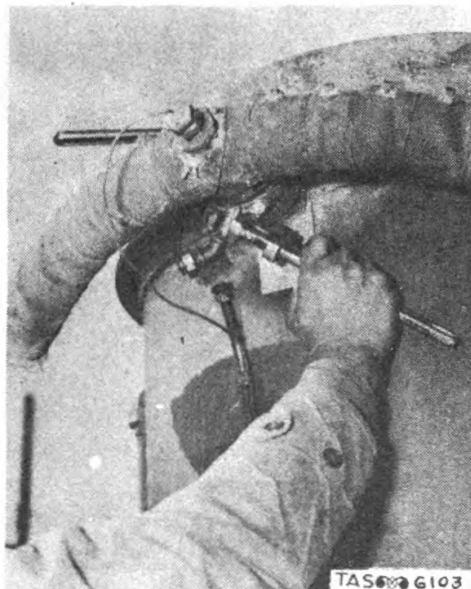

Fig. 103. Detaching Spray Nozzle Gage Piping from Spray Nozzle Manifold by Removing Union and Nipple.
2. Detach spray nozzle pressure gage piping from spray nozzle manifold by removing union and nipple. (See fig. 103.) On models